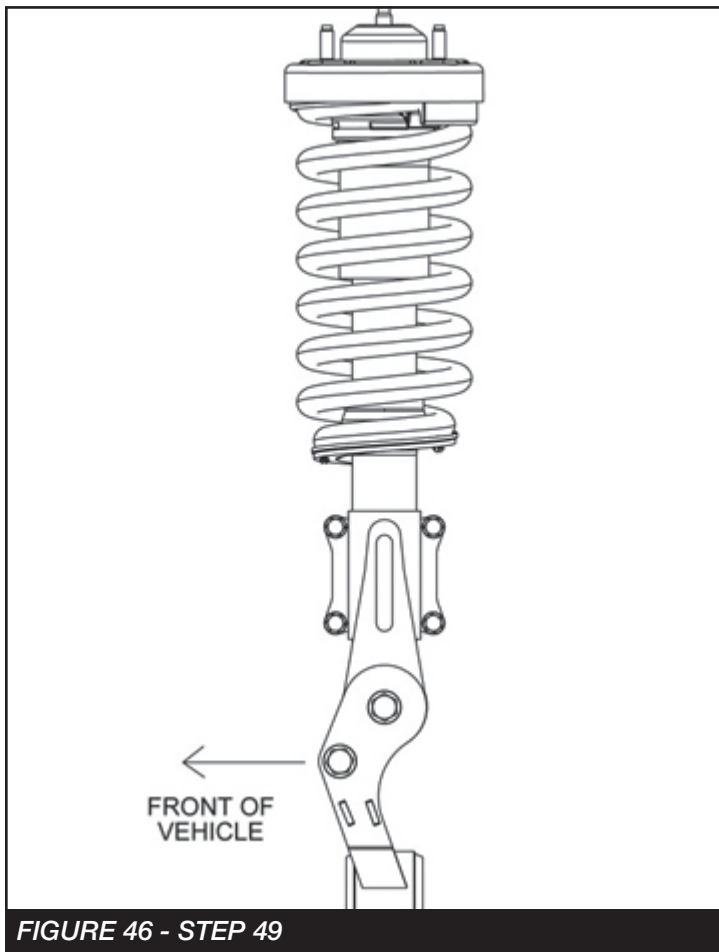

FIGURE 46 - STEP 49
49. Install the coil over into the frame bucket. Rotate lower mount in line with the control arm tabs, and the pivot at the control arm using the factory hardware. Torque the upper nuts to 35 ft-lbs and the lower pivot to 100 ft-lbs. Refer to the drawing below for shock orientation in the vehicle. **SEE FIGURE 46**